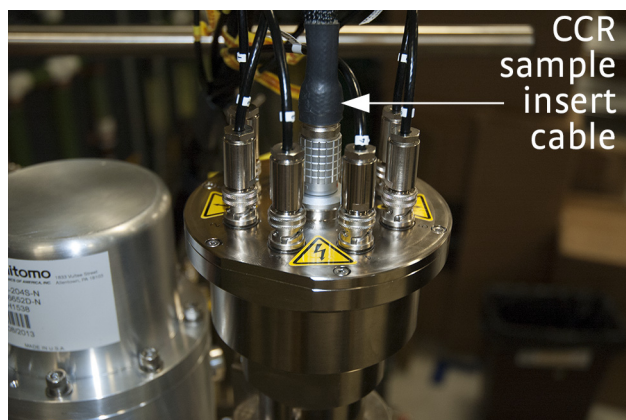

FIGURE 4-37 Left: Connect the CCR insert cable to the 22-pin intermediate CCR insert cable;
3. Connect the 22-pin CCR insert cable to the CCR insert (FIGURE 4-37, left).
4. Connect the 18-pin CCR cable to the VT control port located at the rear of the measurement platform (FIGURE 4-37, right).